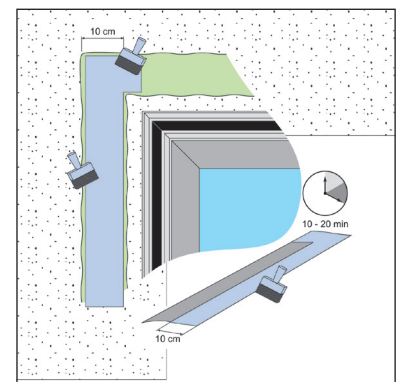

Fig 2: Application of illbruck CT113 Contact Adhesive
- Bonding onto porous materials (also non-porous materials resistant to the adhesive solvent) is achieved using illbruck CT113 Contact Adhesive which is applied by brush or roller in an even layer to BOTH bonded surfaces (see Fig. 2).